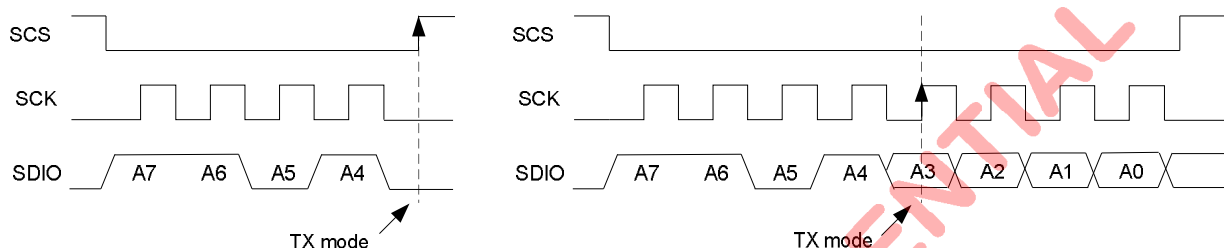

Figure 10.9 TX mode Command Timing Chart
- Step4: Send TX Strobe command for transmitting. Refer to Figure 10.9.